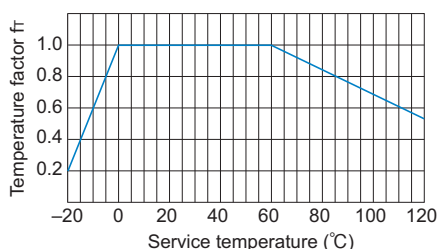

Fig. 1 Temperature Factor
If the temperature of the change nut exceeds the normal temperature range, the seizure resistance of the nut and the strength of the material will decrease. Therefore, it is necessary to multiply the dynamic permissible torque (T) and the dynamic permissible thrust (F) by the corresponding temperature factor indicated in Fig. 1.
f_T : Temperature factor (see Fig.1)